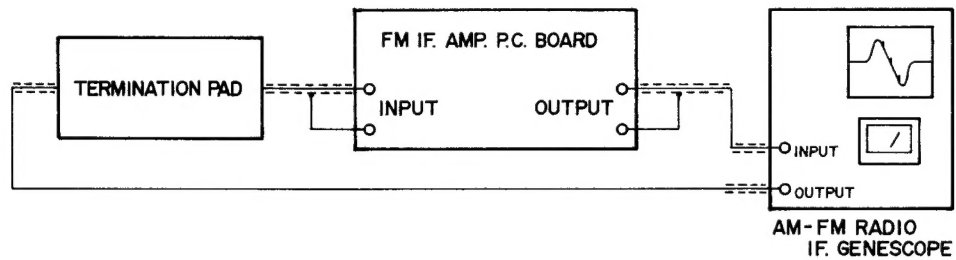

Fig.3
- 1) Connect the lead wires from an AM-FM Radio IF GENESCO (hereinafter referred to as GENESCO) to the INPUT as well as the OUTPUT terminal of the FM IF Amp. P.C. Board as shown in Fig. 3.